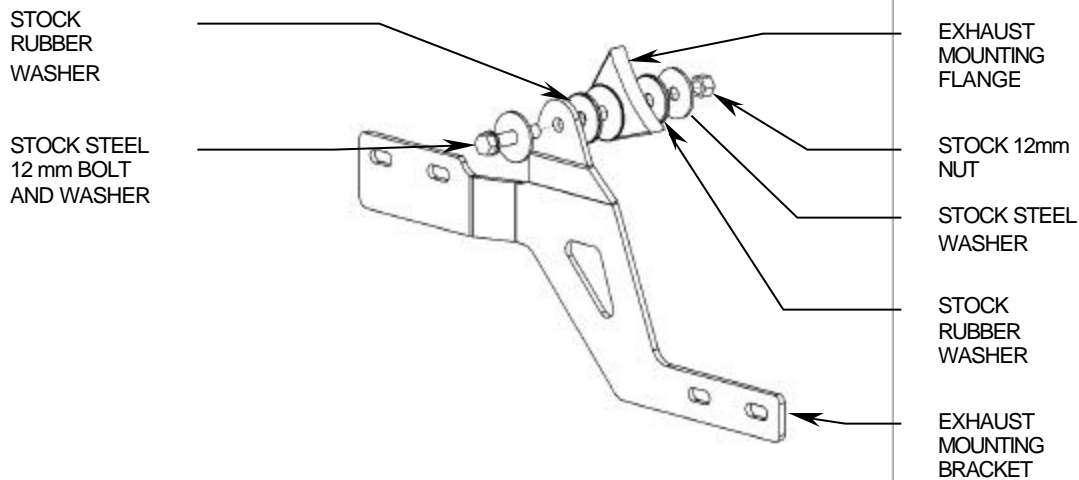

FIGURE 1
2. Remove the exhaust-mounting bracket from the box and attach it to the outside of the stock exhaust mount on the frame using the stock bolt, washers and nut. **DO NOT TIGHTEN** at this time. See Figure 1.